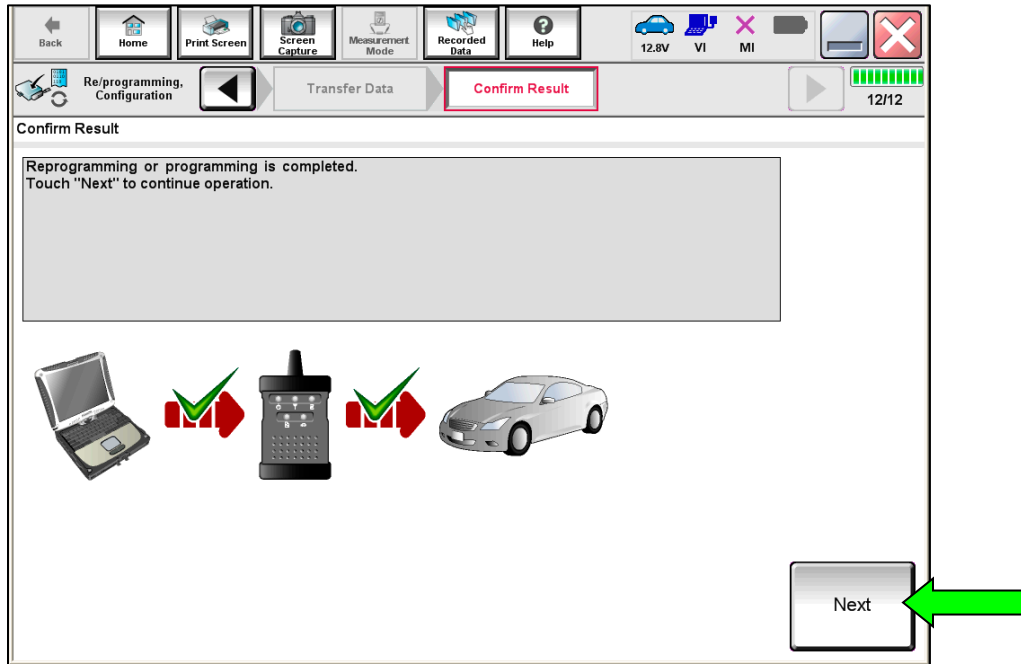

Figure 25
36. Once the screen in Figure 25 on page 15 displays, the reprogramming is complete. Select **Next**.